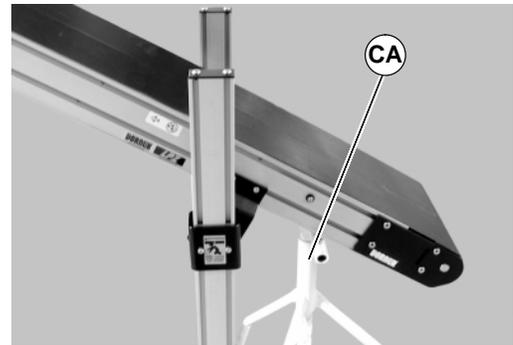

Figure 52
1. Place temporary support (CA of Figure 52) under conveyor sections.